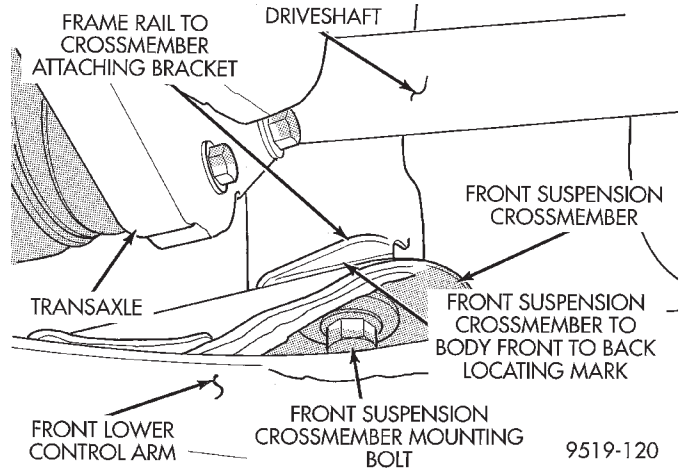
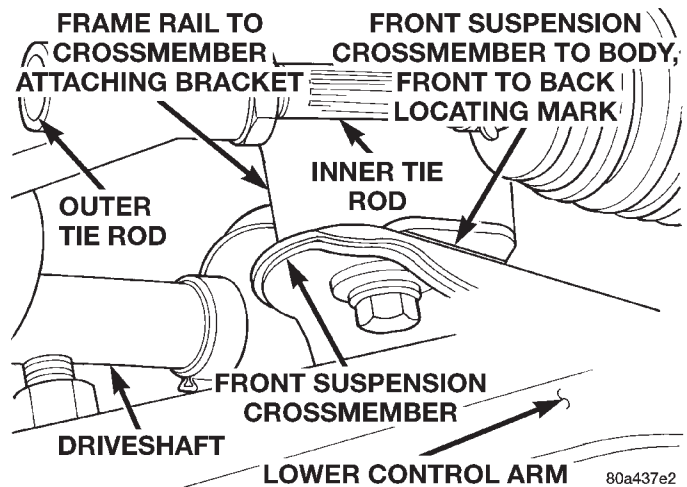
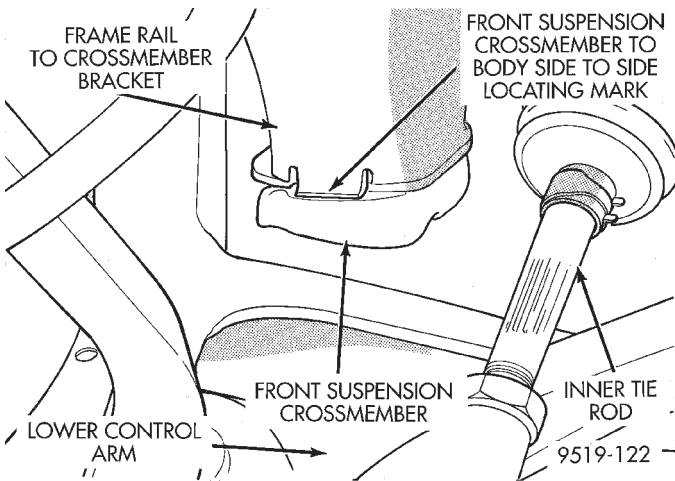

Fig. 7 Front Suspension Crossmember Front To Back Locating Mark (Left Side Front)
Fig. 8 Front Suspension Crossmember Front To Back Locating Mark (Left Side Rear)
Fig. 9 Front Suspension Crossmember Side To Side Locating Mark
(8) Using an awl, scribe a line on the body (Fig. 7) and (Fig. 8) marking the front to back installed location where the front suspension crossmember is mounted against the body of the vehicle. The line should be scribed at both the front and back of where the crossmember is mounted to the vehicle and on each side of the vehicle. In (Fig. 7) and (Fig. 8) the left side of the vehicle is shown.
(9) Using an awl, scribe a line on the front suspension crossmember (Fig. 9) marking the side to side installed location where front suspension crossmember is mounted against the body of the vehicle. The line should be scribed at the side of the frame rail bracket (Fig. 9) where the crossmember is mounted to the vehicle. The locating mark is to be marked the same on each side of the vehicle. In (Fig. 9) the left side of the vehicle is shown.
(4) Using a soft face hammer, tap front suspension crossmember into position, until it is aligned with the previously scribed positioning marks on body of vehicle (Fig. 7), (Fig. 8) and (Fig. 9). When front suspension crossmember is correctly positioned, torque the 2 rear crossmember mounting bolts to 163 N·m (120 ft. lbs.). Then torque the 2 front crossmember to frame rail attaching bolts to 163 N·m (120 ft. lbs.).